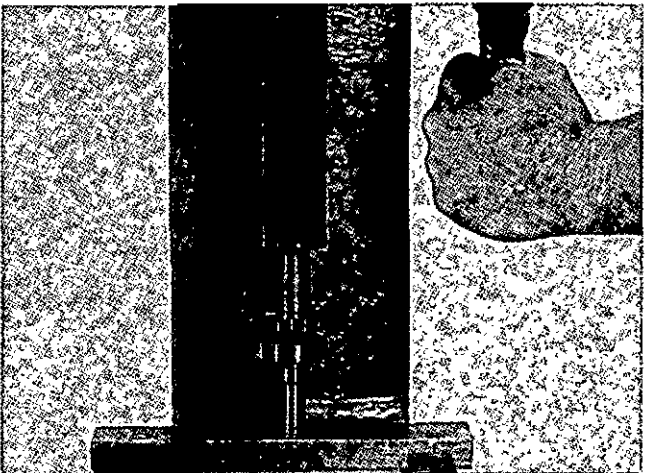

Fig. 3-10, (F542). Press the drive coupling on the shaft.
3. Lubricate the shaft and bore. Press the drive coupling of the gear pump or the rear tachometer drive gear, if used, on the shaft. Press it against the governor drive gear, Fig. 3-10.